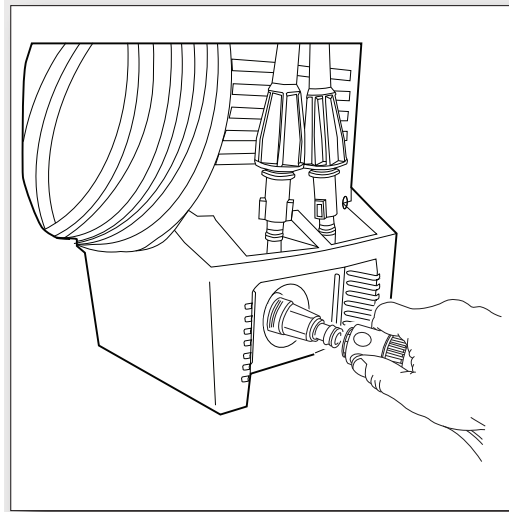

Fig. 14
- Install the garden hose adapter (GHA) and quick connect filter. It is made of two pieces. (1) A clear plastic adapter with a screen filter (about 3 inches long) and (2) a blue/black collar attachment (**Fig. 14**).